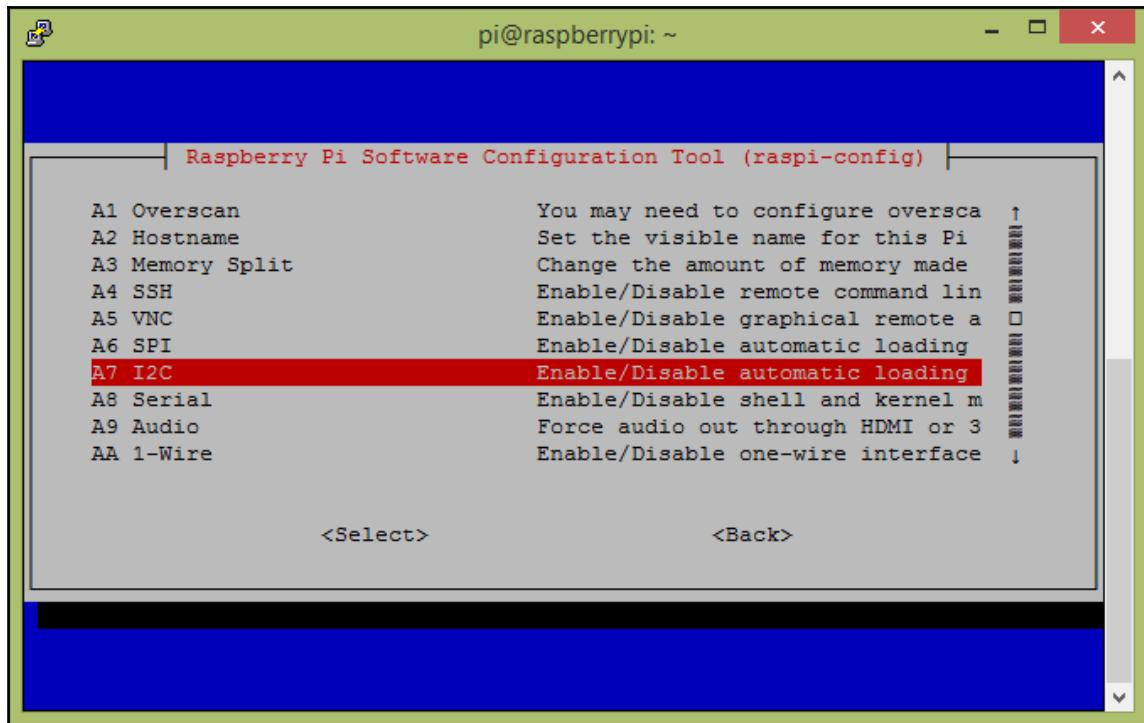

Figure 4-24: Selecting I2C from the configuration tool window
4. In next window, select the **A7 I2C** option and press *Enter* (Figure 4-24):